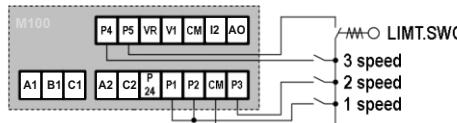

Figure 1
- Wire the I/O terminal of the IC5 inverter according to the Figure 1